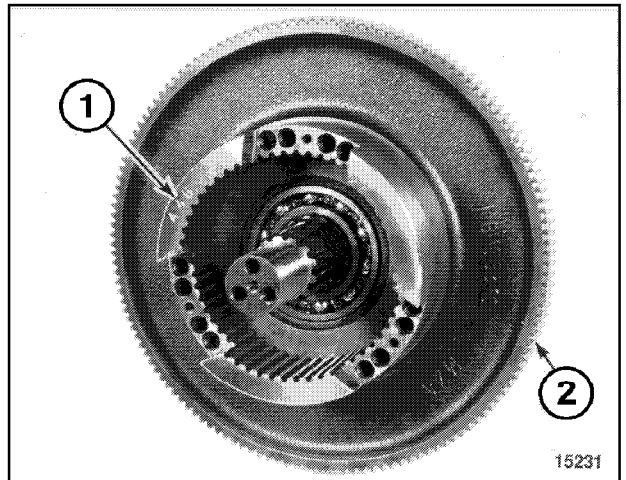

Figure 53
- G. Remove reverse clutch housing (1, Figure 53) from bull gear (2).